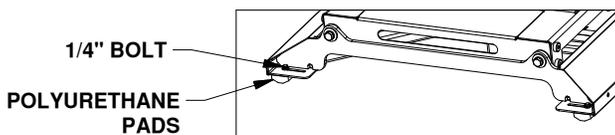

Figure B1: View looking at the slider base from the cab of the truck.
- Loosen pads.** Loosen the four 1/4" cap screws securing the polyurethane pads on either side of the slider hitch, see Figure B1.